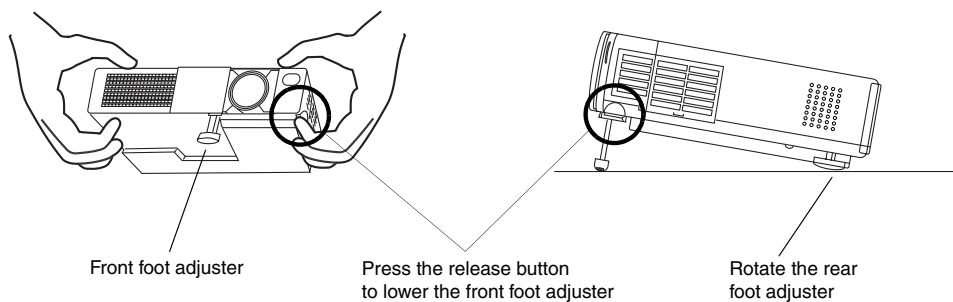

Figure 5: Angle Adjustment
- Adjust the angle of the projection by positioning the foot adjusters. (See Figure 5 : "Angle Adjustment" on page 7.)
Screen Size (inches)	Distance to Screen (inches) (shown as 'a' in Figure 5, above)
Adjust the projector angle using the foot adjusters shown in Figure 5 below. See also Keystone under “Image Menu” on page 11.
- 1 Press the release button to lower the front foot, then tilt the projector up as shown in Figure 5 below.